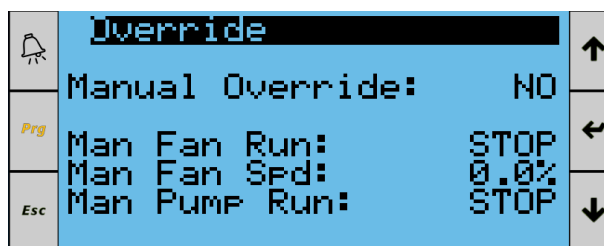

Figure 91. Customer Menu, Page 1
30. Within the Customer Menu shown in **Figure 91** below, set Manual Override to YES.